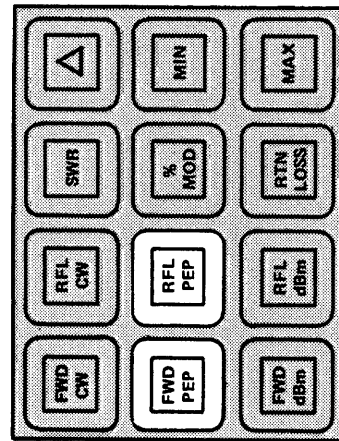

Figure 3-4. Peak Envelope Power (PEP).
d. **Measuring Peak Envelope Power.** (Figure 3-4.) PEP power measurements are made in the same manner as the CW power readings described above, except that the **FWD PEP** and **RFL PEP** buttons are pressed and the readings are displayed directly as peak power.